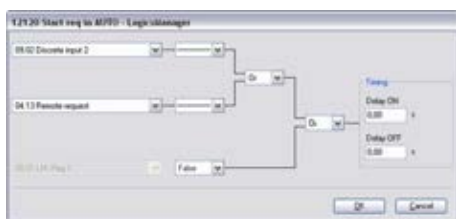

Fig. 148: LogicsManager function "Start req in AUTO"
2. ➤ Configure the LogicsManager function "Start req in AUTO" as shown in (Fig. 148) to start the generator in Automatic operating mode if discrete input [DI 02] ("09.02 Discrete input 2") is energized or a remote start request ("04.13 Remote request" = start via interface) is issued.